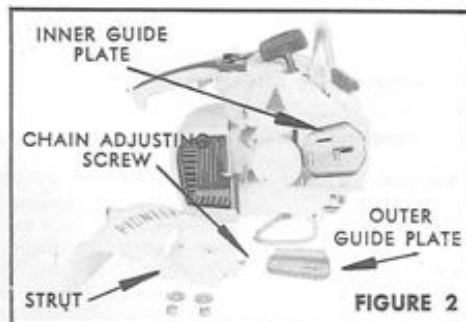

FIGURE 2
1. Remove the strut and outer guide plate from the motor unit. (Figure 2.)